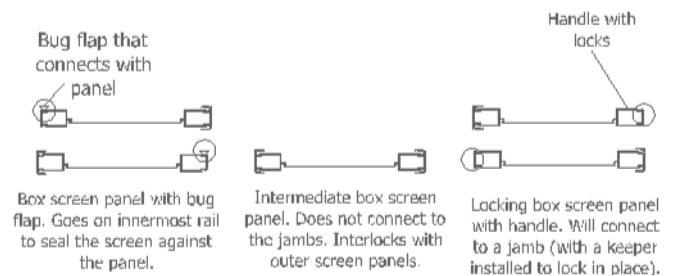

Figure 25
32. Box screen panels have different components based on configuration. Identify correct screen panel placement using Figure 25.